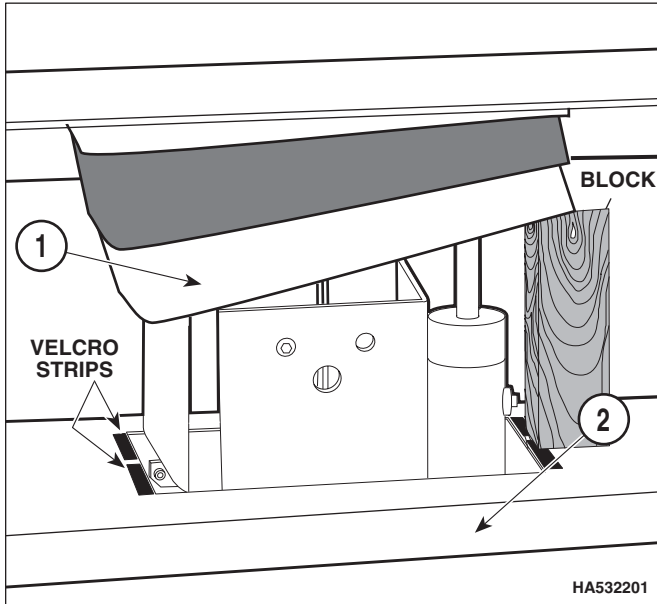

Figure 4-3.1 Raise Bellows For Access
- (1) Pull upward on the bottom column cover (1, Figure 4-3.1) until it is free of four velcro strips on chassis (2).
- (2) Use wood block or similar device to prop bottom column cover up out of way.